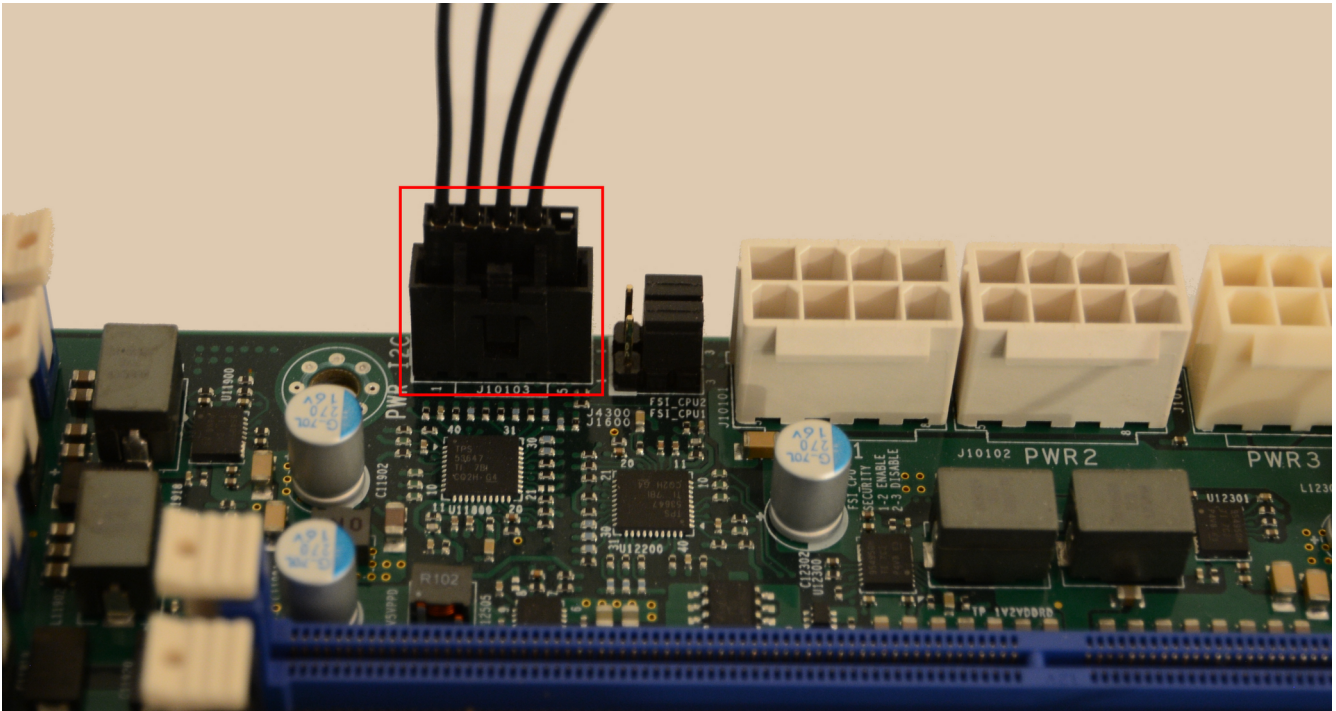

Figure 9: PMBus Cable Installation
- Plug the PMBus connector into the PMBus header on the Talos II host system as shown in Figure 9.